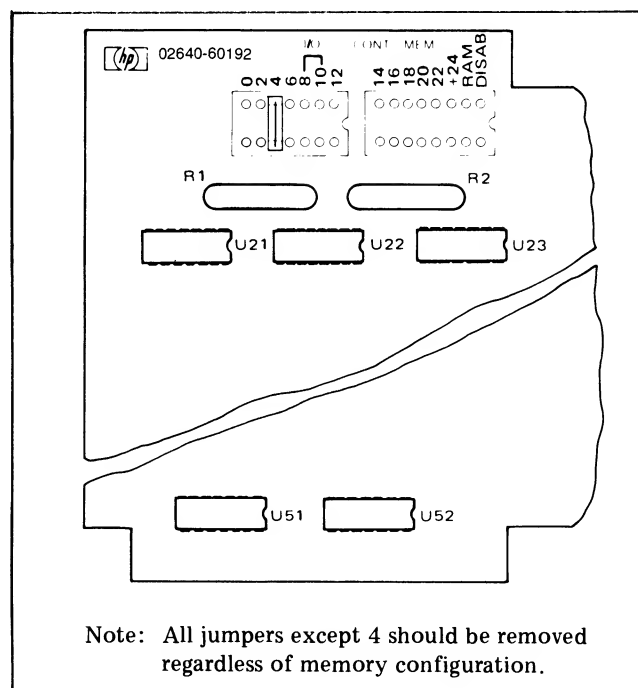

Figure 7-36. Second Control Memory PCA Jumper Configurations (HP 2641A)
- The second Control Memory PCA jumper and ROM socket configuration is shown in figure 7-36.